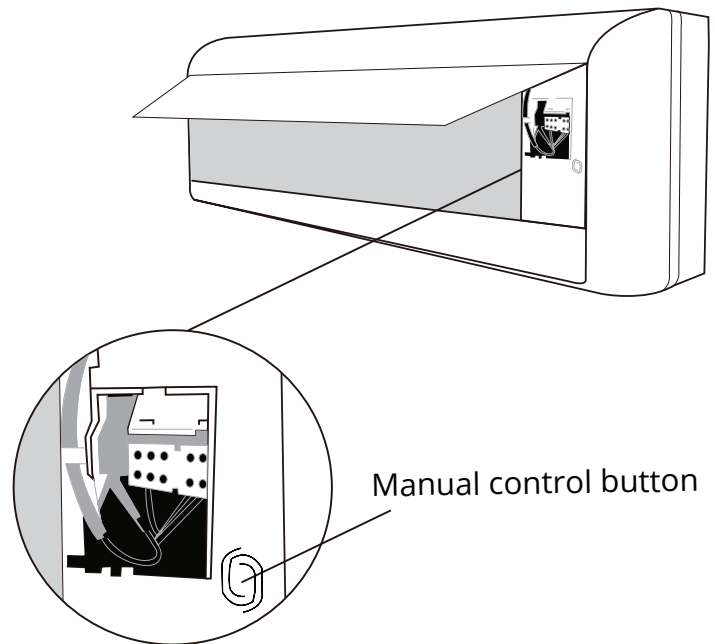

Fig. 9.1
2. The MANUAL CONTROL button is located on the right-hand side of the unit. Press it 2 times to select the COOL function. See Fig.9.1